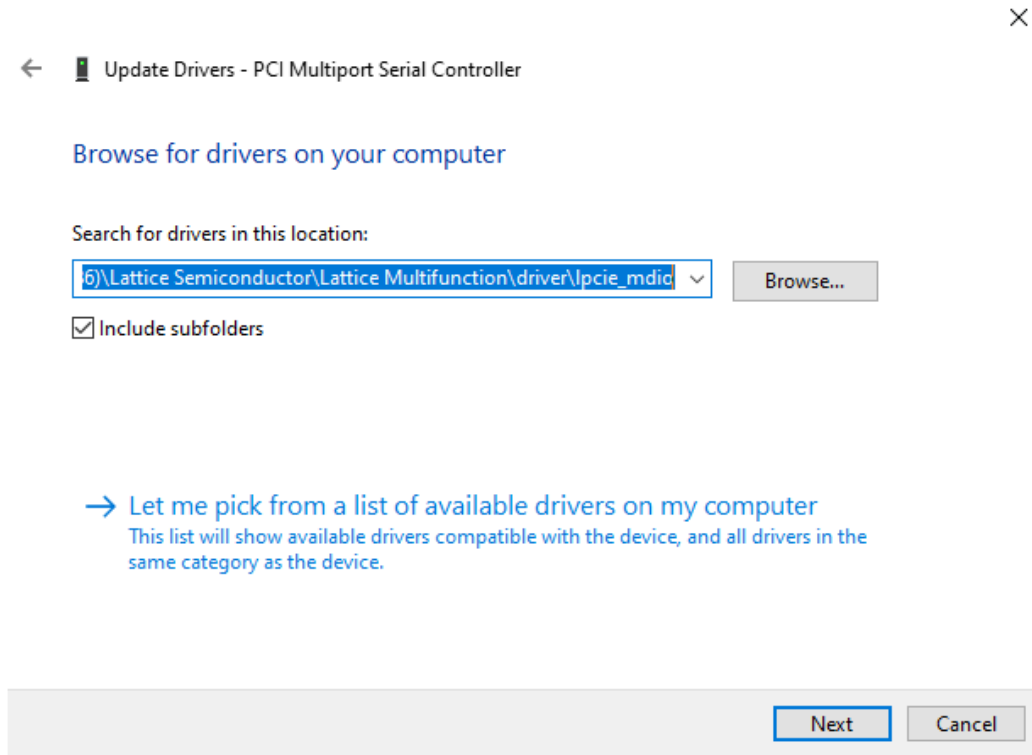

Figure 5.48. Browse the Driver for Device
6. Browse for the MDIO device drivers as shown in Figure 5.48. For the CertusPro-NX board, browse for I²C or GPIO driver.